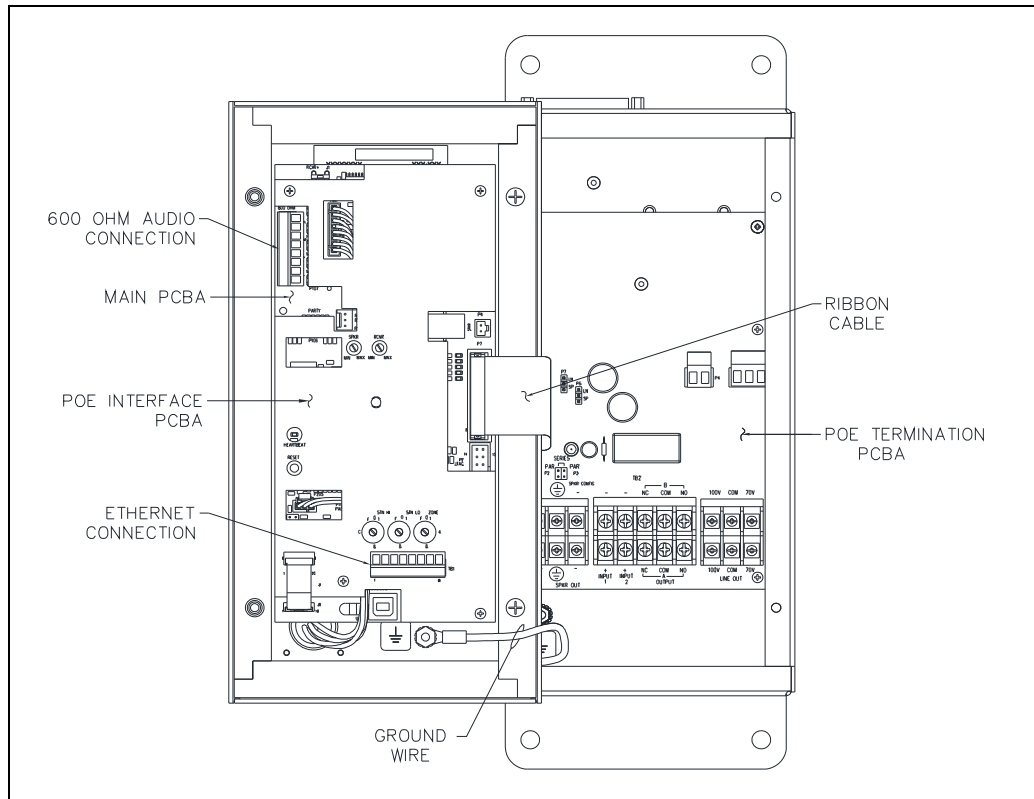

Figure 3. SP2 PoE Remote Subset Station—Interior View
2. Secure it to the ground terminal located in the lower left corner at the back of the rear enclosure (see Figure 3).